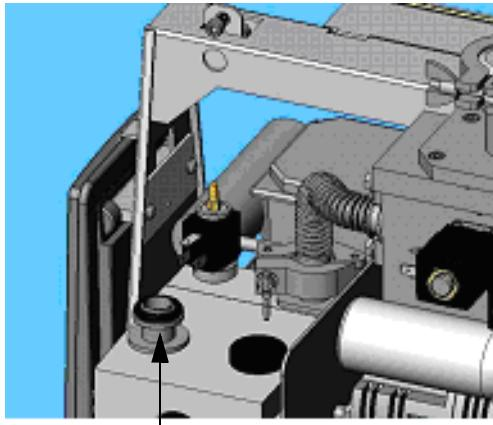

Figure 2: KF-16 Flange Adapter w/Centering Ring
7. Install the KF-16 flange adapter provided with the leak detector using adjustable pliers (Figure 2: KF-16 Flange Adapter w/Centering Ring).
9. Ensure the orientation of the barbed fitting as shown in Figure 2: KF-16 Flange Adapter w/Centering Ring.